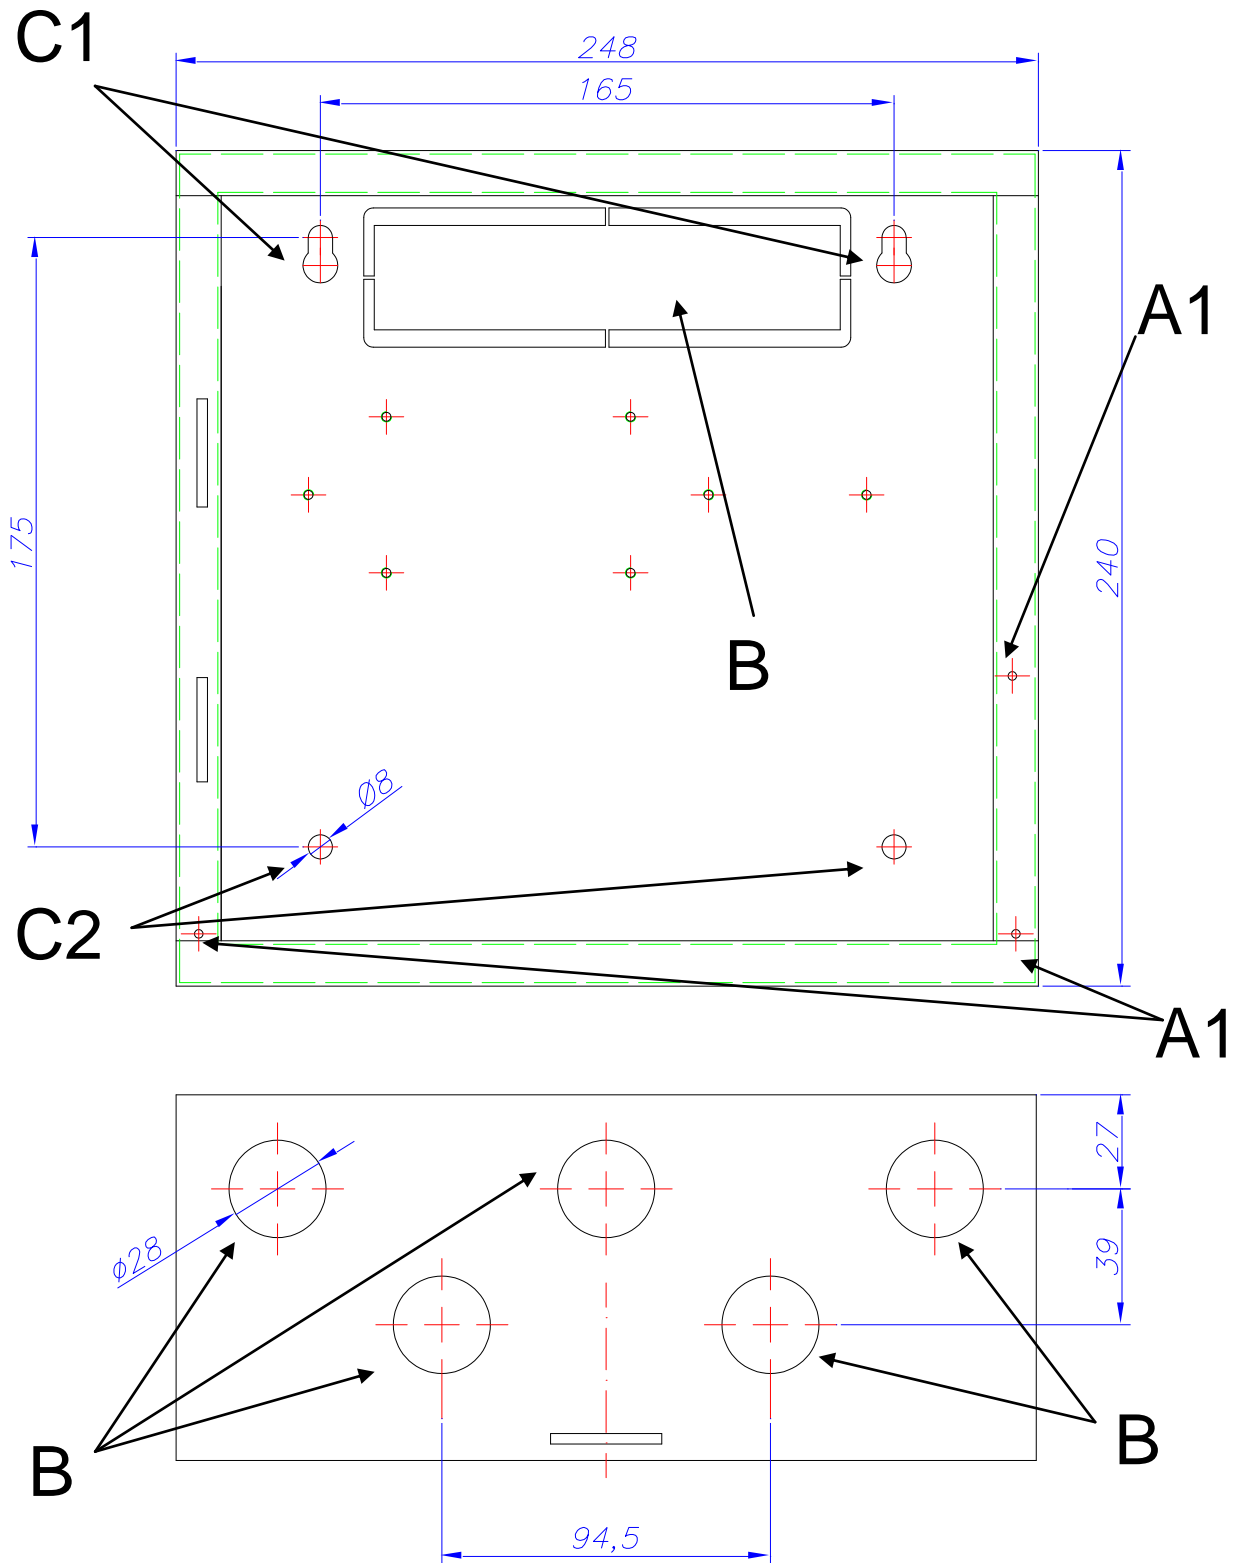

Figure 3: Panel control plans; holes for fastening and passage of cables.
The panel control is based in a rectangular metallic chest, a cover holder on the front, which tilts on the left side of the chest as a door and is kept closed with a screw located on the right side (A1 in *Figure 3*), and a separate plastic door that sits on top of the central, and is fixed to it with 2 screws located in the lower vertices (A2).
The control panel will be fixed above vertical wall. The lateral slots of the control panel must remain free for a correct heat evacuation. *Figure 3* shows the  $\phi 28$ mm knockouts and die-cutting for cable entry (B) located on the upper side and on the lower side (in case it is necessary to use additional entries), and the holes located in the bottom for the box for fixing the control panel to the vertical wall of:  $\phi 10/\phi 7$ mm in the upper ones (C1) and  $\phi 7$ mm in the lower ones (C2).